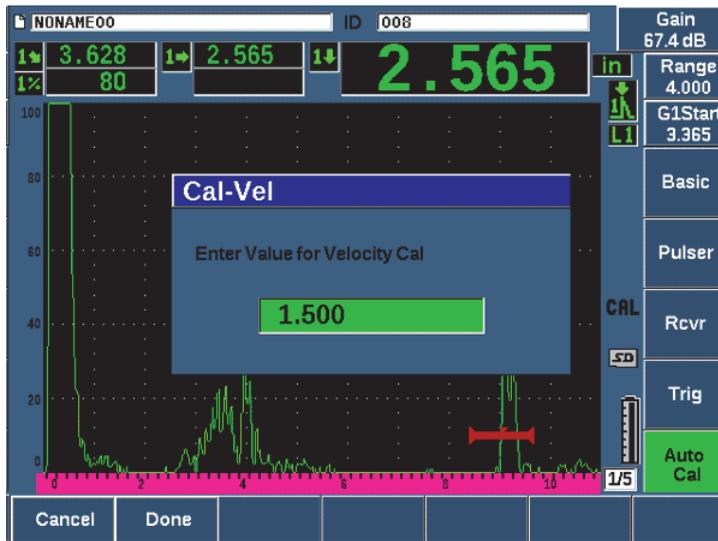

Figure 9-29 Entering the Velocity Cal thickness value
11. Adjust the value in the Cal-Vel dialog box to match the known thickness of the gated indication (see Figure 9-29 on page 180).